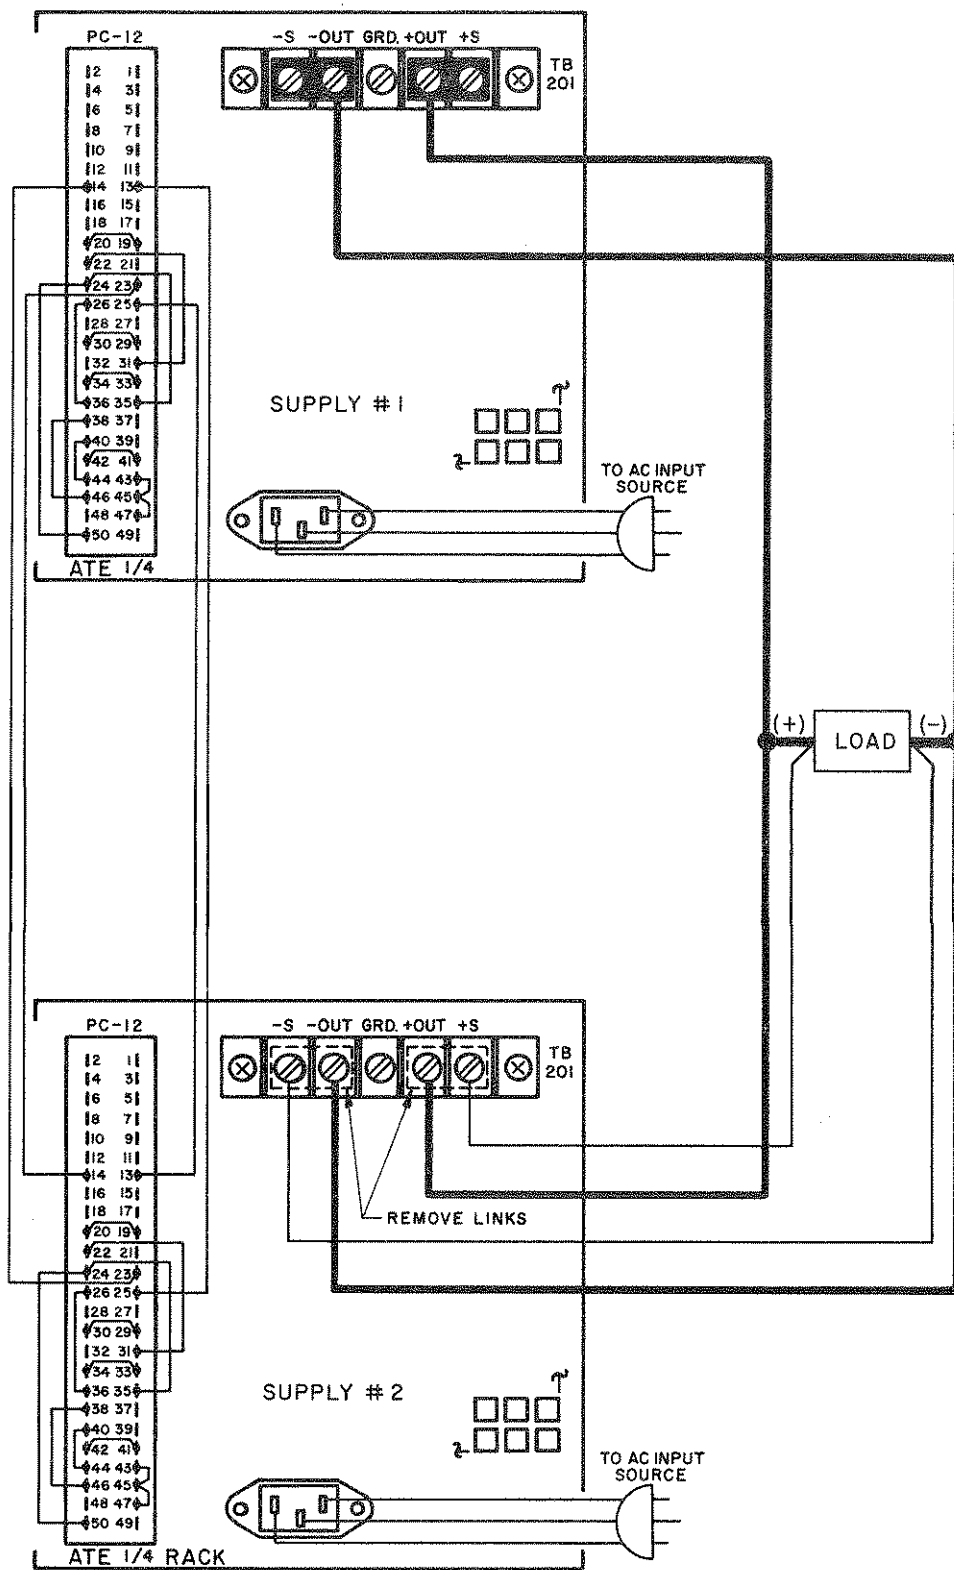

FIG. 3-25 CONNECTIONS FOR AUTOMATIC PARALLEL OPERATION.
- 3) Make all load interconnections as shown in the connection diagram (refer to FIG. 3-25).